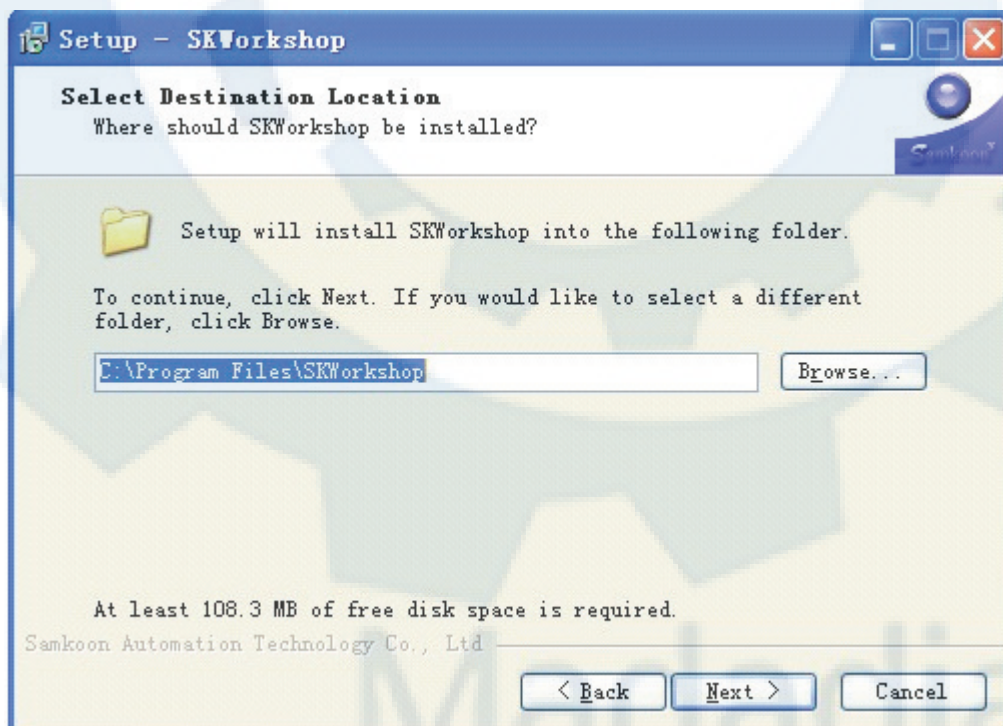

Figure 2-5: Installation directory selection page
- Users can fill in their own personal or company information, or choose the default setting “C:\Program File\SKWorkshop\”, and then click “next”. See Figure 2-5.
If you want to cover the previous installation, click Yes; Otherwise, click No to go back to the dialog as shown in Figure 2-5 and reselect an installation directory.